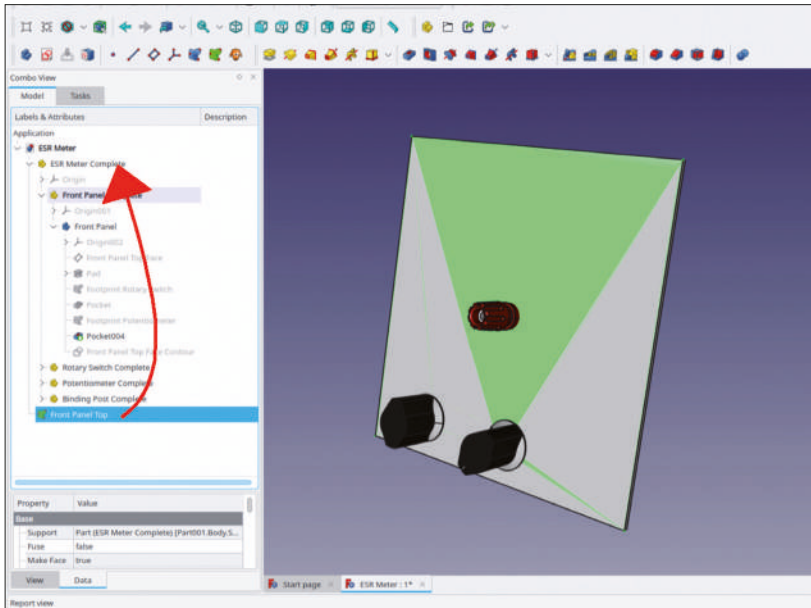

Figure 7-27
11. Rename the new SubShapeBinder to 'Front Panel Top'. Drag-and-drop it in the Std-Part-Container 'ESR Meter Complete' (Figure 7-27). Then, hide the new SubShapeBinder.